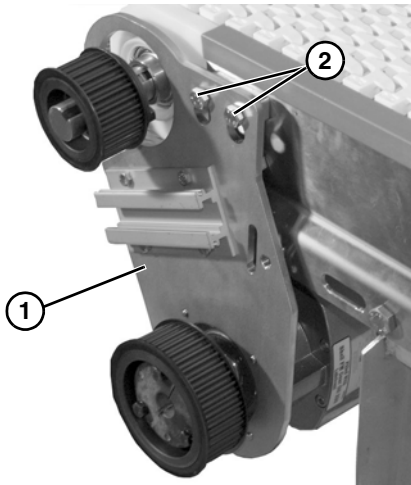

**Figure 3**
1. Locate drive output shaft (**Figure 3, item 1**). Remove top two existing bolts securing headplate (**Figure 3, item 2**) to conveyor frame.
2. Install spacer (**Figure 3, item 3**) and two longer bolts provided (**Figure 3, item 4**) into conveyor frame and headplate. Leave bolts loose with enough space to slide on mounting assembly.